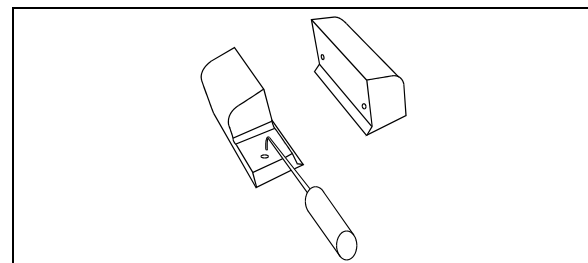

FIGURE 26: REMOVE THE UPPER ACETAL PLASTIC BLOCKS WITH A PICKING TOOL
4. Remove the 2 upper acetal plastic blocks. They have holes so they can be removed with a picking tool (FIGURE 26) from outside the vehicle. If the acetal plastic blocks are too hard to reach, slightly extend the slide-out, the movement of the slide-out should bring them out.
1. For both sides of the slide-out, remove the 2 upper acetal plastic blocks shown on FIGURE 26 (refer to paragraph 13).